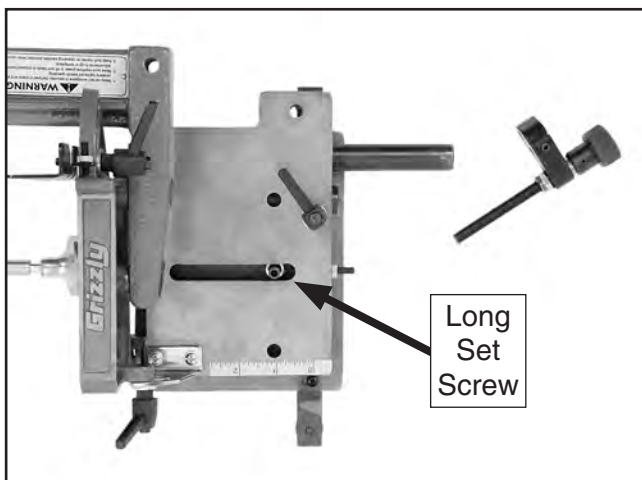

Figure 11. Slide plate positioned over the base plate.
7. Place the slide plate over the upright set screw, as shown in **Figure 11**.